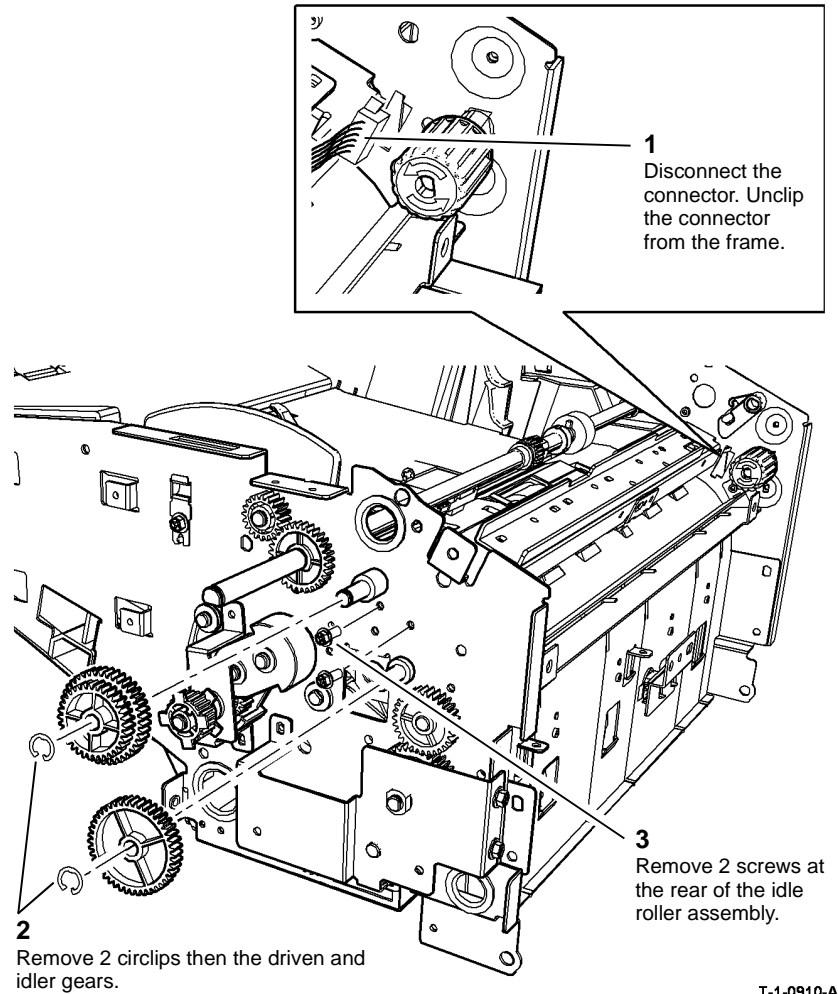

Figure 1 Preparation
6. Prepare to remove the idle roller assembly, **Figure 1**.